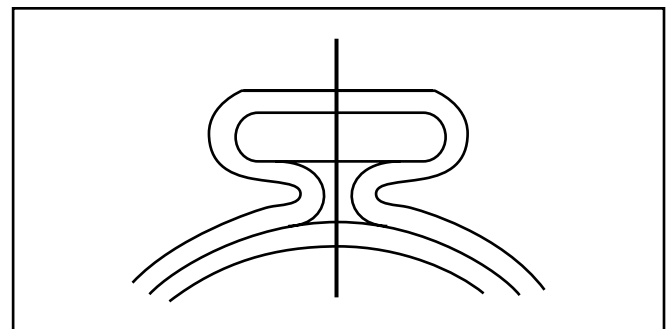

Fig. 6: Full ear closure required
3. IMPORTANT: For proper installation of Oetiker PEX series clamps, full ear closure is required. Visually inspect clamp for correct closed ear form. (Fig. 6)